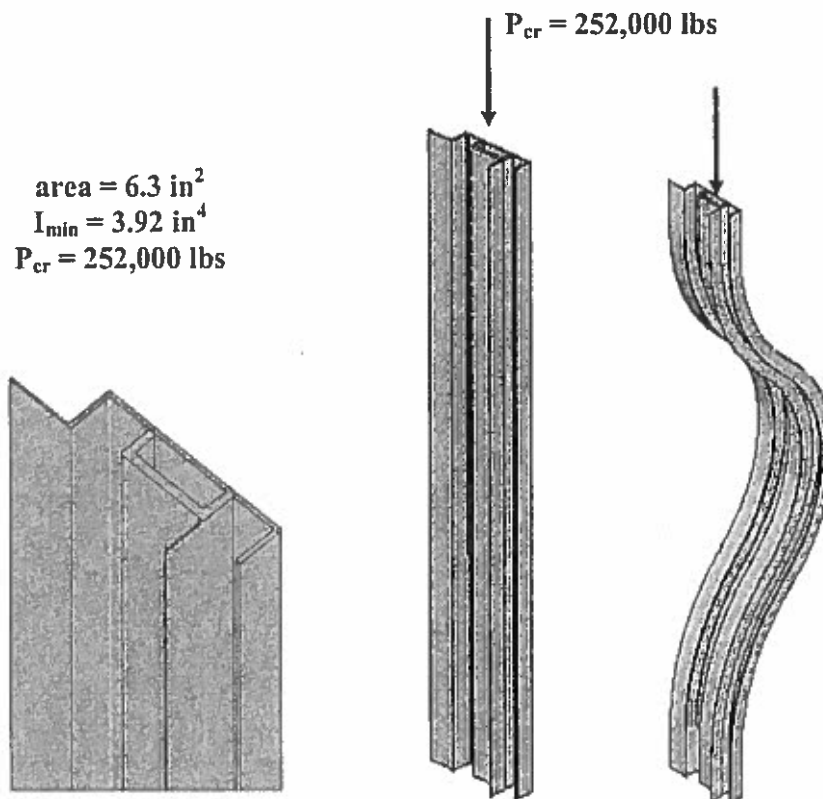

Figure 3. Corner Post from Fig. 2(a) showing increase in buckling strength due to participation of wall
The effect of participation of the walls and doors is illustrated in Fig. 3 The profile of Fig. 2(a) has been used with a 3-inch wide strip of adjacent container sidewall (3.6 mm thick) and a 2-inch wide strip of door panel (2 mm thick), to form a column of considerably higher strength than the profile of Fig. 2(a) alone. The cross section shown, with walls, has a critical load of approximately 252,000 lbs, which is well above the 175,000 lbs of the corner post alone, and well above the 190,480 lbs required by the ISO Standard.
6. We have several specification documents from container vendors that stipulate a higher load capacity, but no details on just how this is accomplished by any container manufacturer via changes in the post configuration. We suspect that these vendors may just be taking advantage of a specification requiring a higher measured failure load as discussed in the preceding paragraph. After all, our post calculations for Figures 2(b) and Figure 3 indicate that these “standard” posts should easily pass a failure load test at 214,290 lbs vs. the original ISO test at 190,480 lbs.